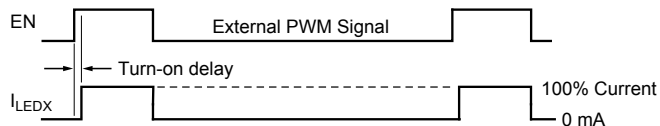

Figure 2: Timing Diagram of External PWM Signal and LED Current
- PWM dimming using the EN pin. PWM dimming is performed by applying an external PWM signal on the EN pin. When the EN pin is pulled high, the A8501 turns on and all enabled LEDs sink 100% current. The sequence is shown in Figure 2. For optimal accuracy, the external PWM signal should be in the range 100 to 300 Hz. The slight delay between PWM signal and the LED current causes an error. To compensate for the error, a small turn-on delay should be added to the PWM signal as shown on page 10 of the Performance Characteristics section. When EN is pulled low, the boost converter and LED sinks are turned off. The compensation (COMP) pin is floated, and critical internal circuits are kept active. If EN is pulled low for more than t_{PWML} , the device enters shutdown mode and clears all internal fault registers. As an example, for a 2 MHz clock, the maximum PWM low period while avoiding shutdown is 65 ms.